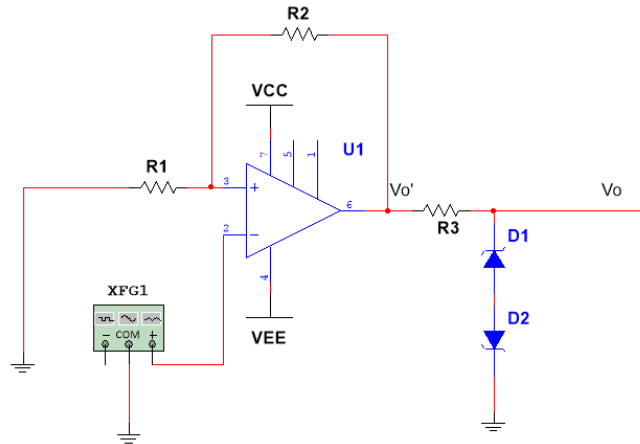

Fig 6.1: Inverting Schmitt trigger
2. Setup the circuits as shown in Fig. 6.1 and 6.4.